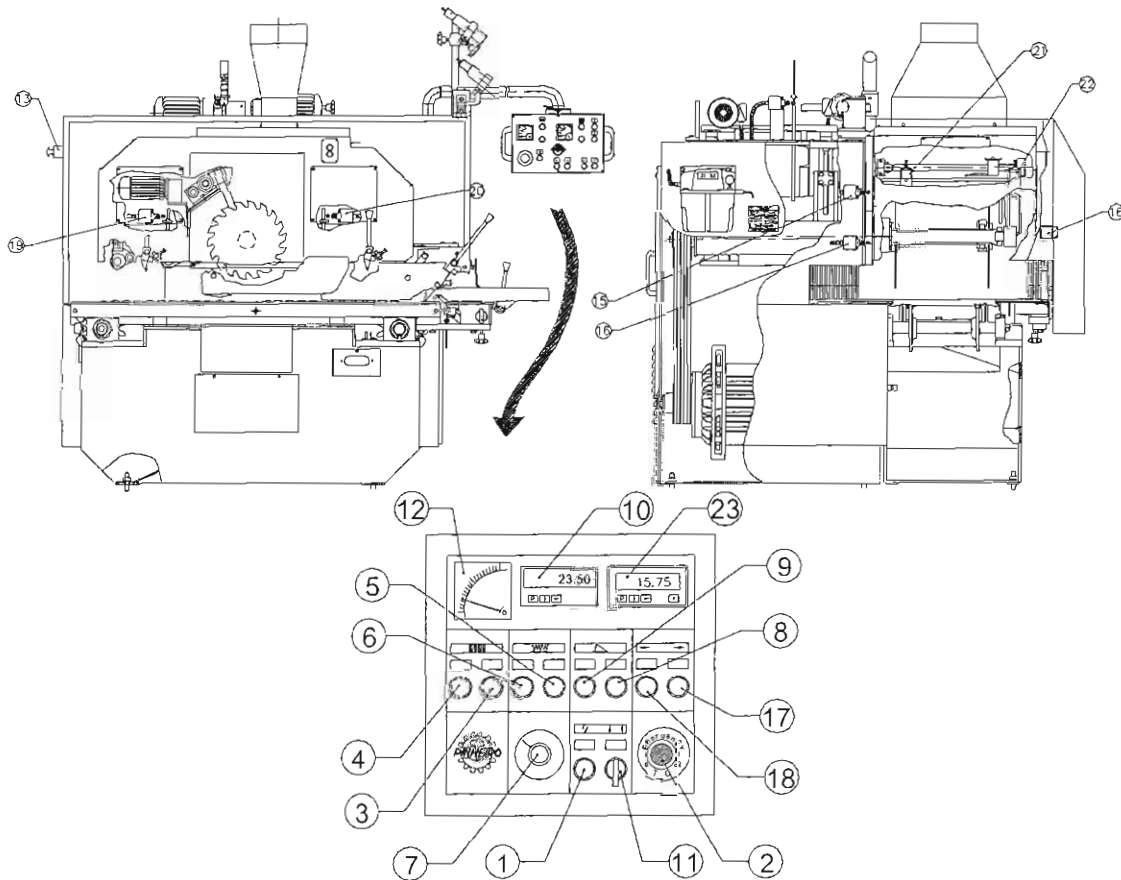

Figure 2
- It is controlled by the potentiometer (Pos.7 in Fig. 2) and by the electronic frequency variator so as to bring about the variation in the feed speed.
The table where the machine's electrical controls are located (ver detailed image in Fig.2).
- It stops as it is at the end of the feed Pos.14 in Fig. 2 when the Feed Housing is lowered.
- It stops as it is at the end of the feed Pos.15 in Fig. 2 when the Feed Housing is raised.
This motorized reducer is controlled at the control table by two buttons (Pos.17 and 18 in Fig.2): one for moving the disk to the left and the other to the right, thus adjusting the cutting width of the lumber.
2- FUNCTIONS OF THE ELECTRICAL COMPONENTS. (See fig. 2)